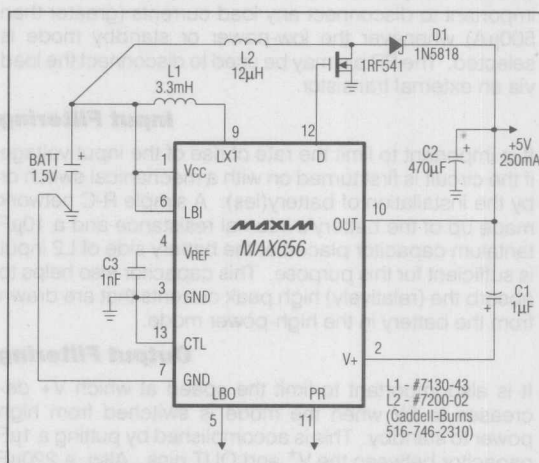

Figure 4. MAX656 Typical Application
MAX657/659). It is connected to the OUT pin which is the feedback input in high-power mode. Figure 4 shows a similar circuit with the MAX656 using an external FET for higher power output.
* Coils are from Caddell-Burns Co. NY (516) 746-2310. Inductance (μH) is the MINIMUM allowed for the listed battery voltage range (Battery Voltage: MIN, MAX). Lower values are not recommended, except when using the MAX656/658 converters since they use an external MOSFET. If less current than listed in the Output column is needed, a higher inductance coil will reduce losses. The optimum inductance varies inversely with required output current if all other conditions are unchanged. For example, refer to line 3 and the 10mA output. 120 μH supplies this current more efficiently than the 39 μH coil of line 2. L2 may also be calculated using the equations in the Inductor Selection Section.
** These MAX656 circuits (see Figure 4) use an IRF541 as an external current switch. Peak switch current is typically 3.5A.